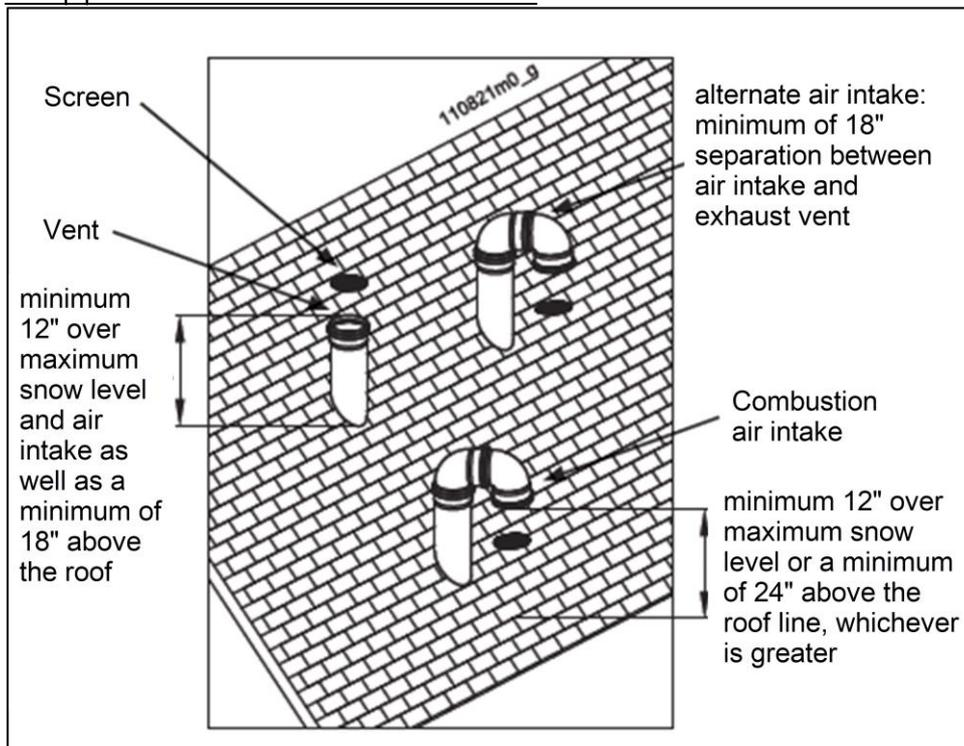
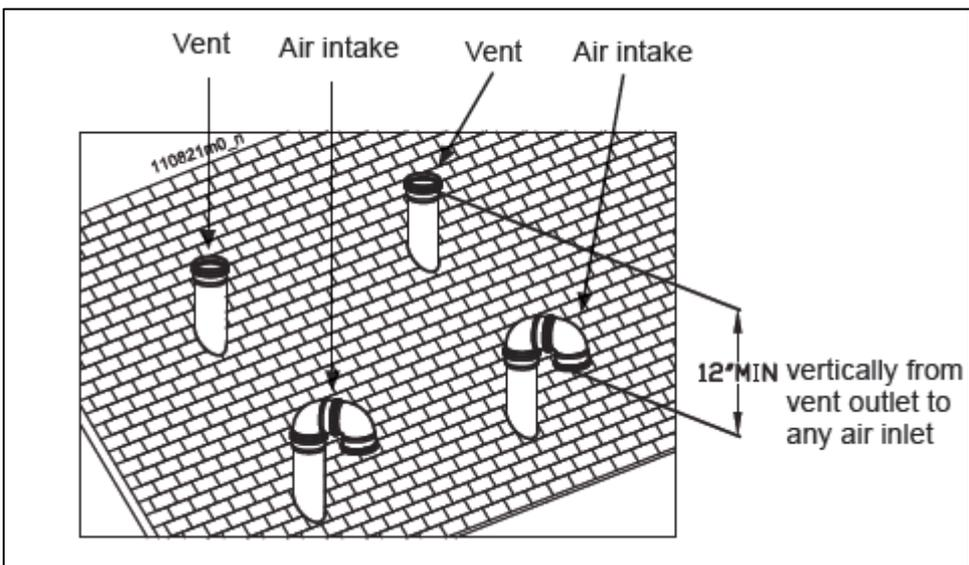

Figure 10.26
Figure 10.28
2. Prepare the vent termination and the air intake termination elbow (see Figure 10.26). The use of vent / bird screens is optional.
3. The air intake piping must terminate in a down-turned 180° direction utilizing two elbows, see Figure 10.26.
5. Maintain the required dimensions of the finished termination piping as shown in Figure 10.26.
NOTICE	<ul style="list-style-type: none"> <li>• Do not allow insulation or other materials to accumulate inside the pipe assembly when installing through the hole in the roof.</li> <li>• Ensure termination height is above the roof surface or anticipated snow level (12 inches (305 mm) in U.S.A. or 18 inches (457 mm) in Canada) as shown in Figure 10.26 and 10.29.</li> </ul>
When two (2) or more direct vent appliances are vented near each other, each appliance must be individually vented (see Figure 10.26). Common venting is not allowed with another manufacturers equipment. When two (2) or more direct vent appliances are vented near each other, two (2) vent terminations should be installed as shown in Figure 10.28. It is important that vent terminations be installed as shown to avoid recirculation of flue gases.